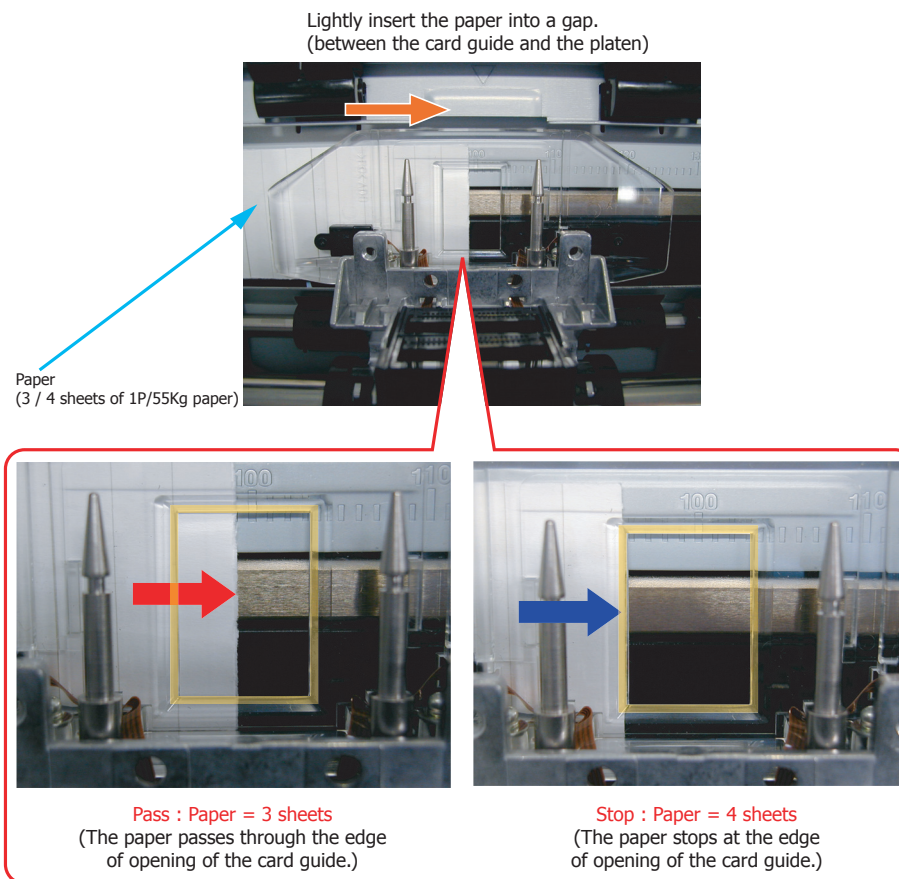

Figure 5-9. Judging the Gap Level
4. Refer to Figure 5-9 and verify that three sheets of paper fit in a gap between the platen and the card guide, but four will not fit. If the gap is not correct, repeat from step 3.